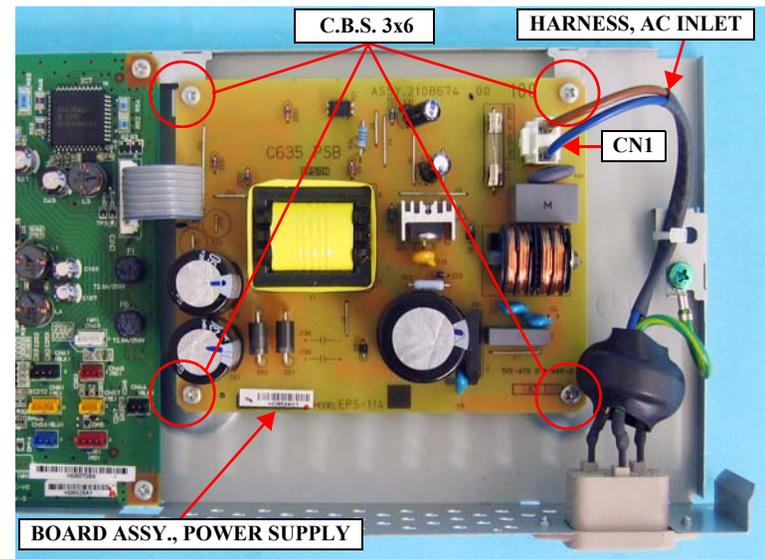

Figure 4-34. Removing the BOARD ASSY., POWER SUPPLY
3. Disconnect the HARNESS, AC INLET from CN1 on the BOARD ASSY., POWER SUPPLY. See Figure 4-34.